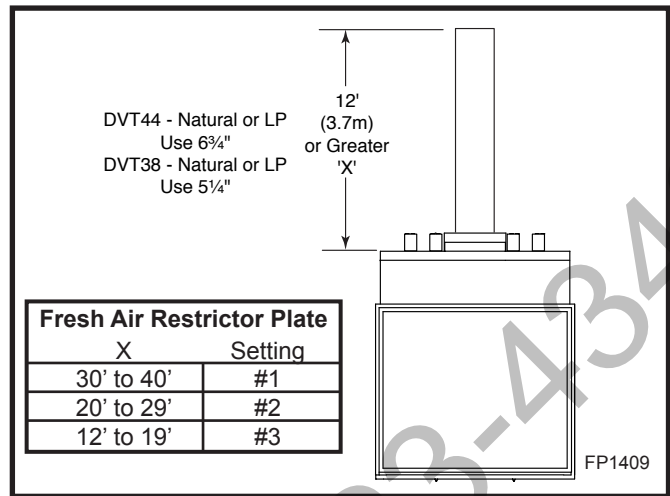
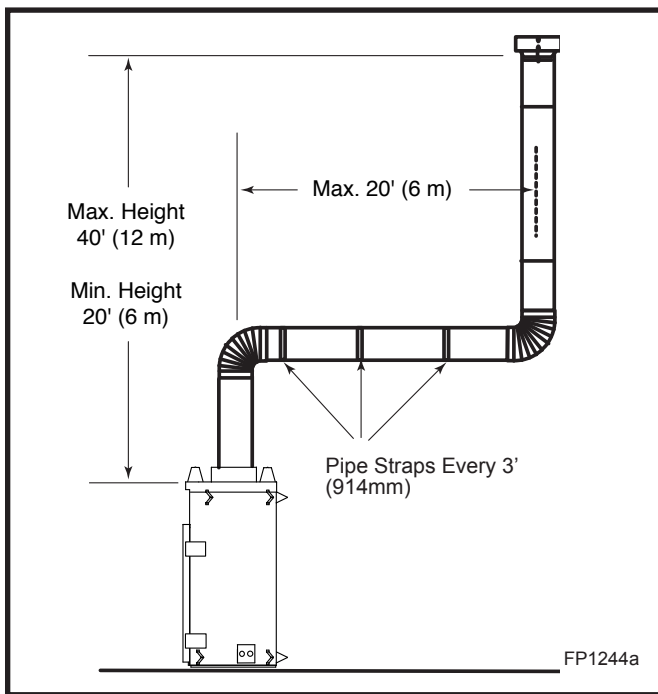
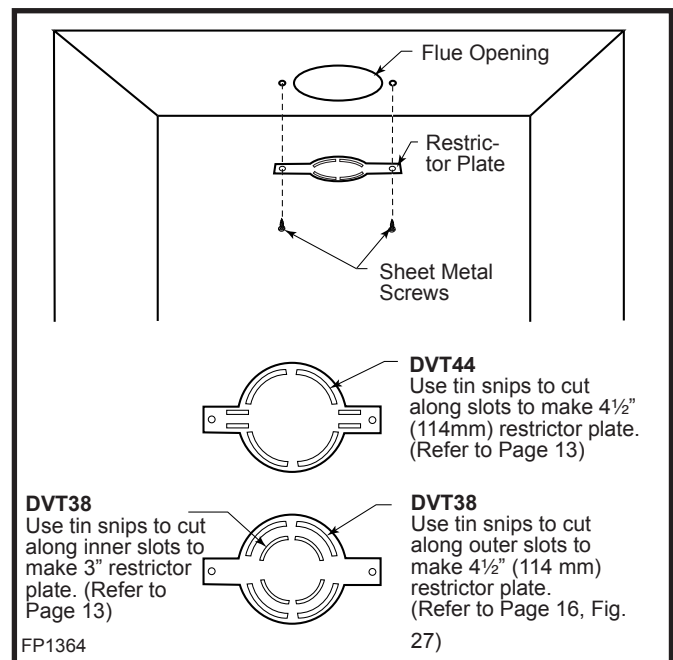

Fig. 26 Restrictor plate use in straight up installation.
Fig. 28 Support straps for horizontal runs.
Fig. 35 Restrictor plate location.
A vertical vent system must terminate no less than 12' (3.66 m) and no more than 40' (12 m) above the appliance flue collar. A 2' (610 mm) vertical section must be installed before any offset. A maximum of 20' (6.1 m) horizontal and three (3) 90° elbows may be installed with a minimum of 12' (3.66 m) vertical section above the flue collar of the unit. Refer to Page 15, Figure 26 for more information.
For vertically venting either propane or natural gas units, with vertical vent heights of 12' (3.7 m) or greater, (measured from the top of the flue collar) the restrictor plate as supplied with this unit should be used. (Fig. 26) Also, the fresh air restrictor plate could be adjusted according to your vent height. (Fig. 26) Refer to Pages 20 & 21, Figures 35 & 37 for restrictor plate installation and fresh air restrictor plate adjustment.
For vertical venting configurations that include a minimum vertical rise of 12' (3.7 m) and a maximum horizontal offset of 10' (3 m) the 4½" restrictor plate supplied with this unit should be used. The fresh air restrictor plate could be adjusted to the setting #3 (**DVT44 Only**). (Fig. 28) Refer to Pages 20 & 21, Figures 35 & 37 for restrictor plate installation and fresh air restrictor plate adjustment.
- Vertical installations up to 40' (12 m) in height. Up to a 20' (6 m) horizontal vent run can be installed within the vent system using a maximum of three (3) 90° elbows. (Fig. 28)
- A 2' (610 mm) vertical section must be installed before any offset. A maximum of 20' (6.1 m) horizontal and three (3) 90° elbows may be installed with a minimum of 12' (3.66 m) vertical section above the flue collar of the unit. (Fig. 28)
Using the two (2) screws provided along with the restrictor plate shipped with the logset, fasten the restrictor plate to the firebox top through the front of the unit. (Fig. 35)